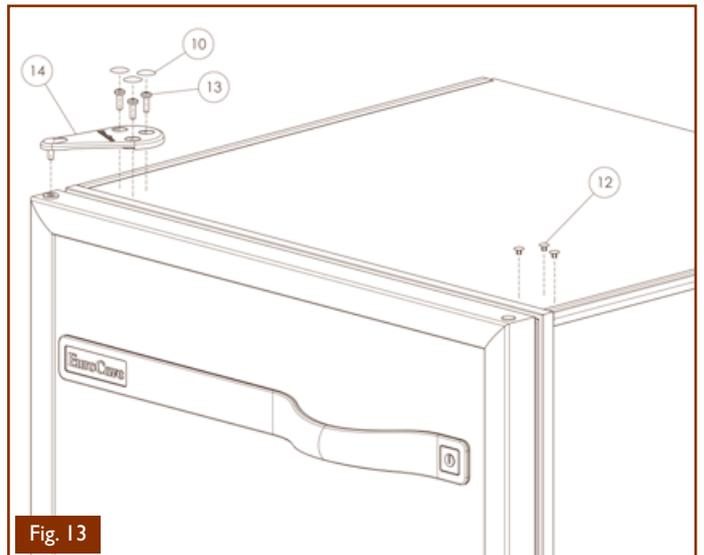

Fig. 13
- Relocate the hinge (14), using the screws (13) in such a way so that the door is parallel with the case, see Fig.13
- Replace the grommets (10) and (12), see Fig.13